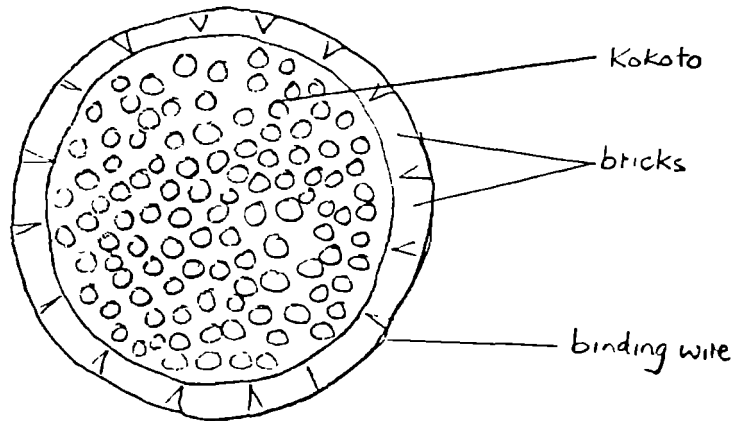

Fig. 2.
3. Form a ring of bricks, at least 9 inches high, around the edge of this hole and secure them with some binding wire. Fig. 2.